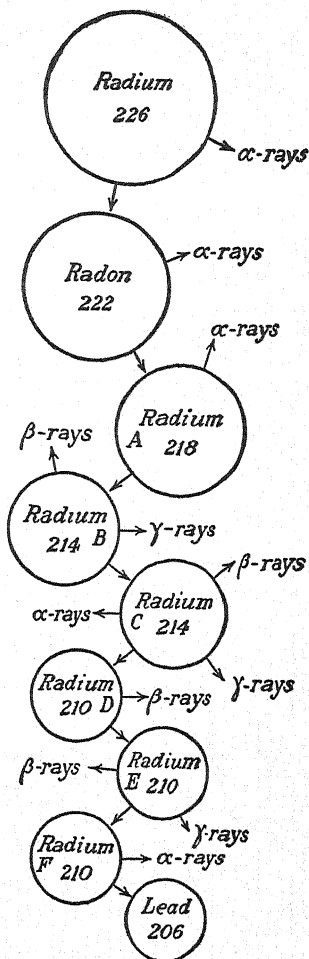

FIG. 355. — Disintegration of radium atom.
*Radon* loses half its activity in about four days. As it disintegrates, it loses an alpha particle and forms *radium A*, of atomic weight 218. But *radium A* is radio-active and it breaks down forming helium and *radium B*, which has an atomic weight of 214. This disintegrates and forms successively *radium C*, *radium D*, *radium E*, and *radium F*. Figure 355 shows the various steps in the disintegration of the radium atom. When *radium F* loses an alpha particle, it forms an element that has an atomic weight of 206. It appears to be identical with lead. Thus we see that uranium is the parent of radium, but lead is its descendant. Formerly chemists were disposed to scoff at the ideas of the alchemists in their belief in transmutation of one element into another. Now we learn that such *spontaneous transmutation* is going on continuously with certain elements. There is considerable evidence to support the belief that all the atoms are composed entirely of helium and hydrogen.